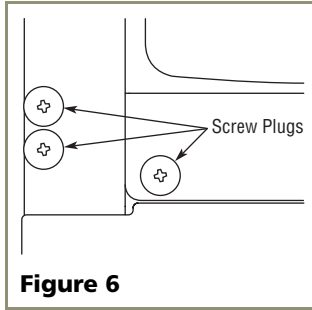

Figure 6
- Remove plastic screw plugs (3 each, top and bottom) from new hinge location. Do not discard (see **Figure 6**).